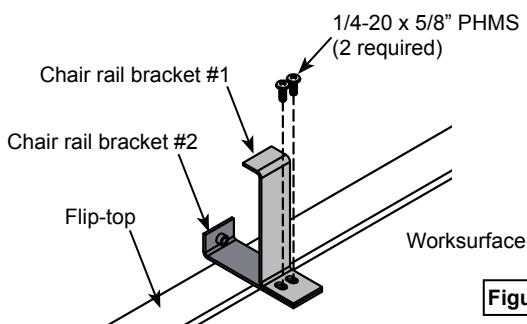

Figure 1B
Orient and attach the chair rail brackets to the center of the worksurface as shown in **Figure 1B** with (2) 1/4-20 x 5/8" PHM screws.